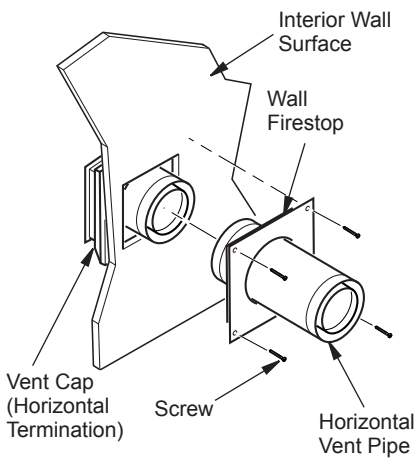
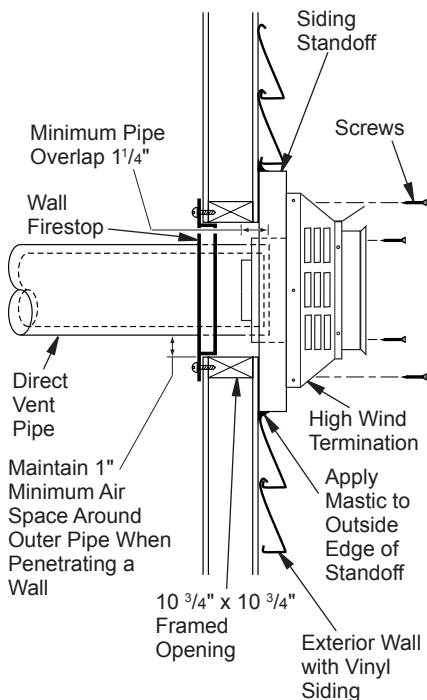

Figure 12 - Connecting Vent Cap with Horizontal Vent Pipe
Figure 13 - Typical Horizontal Termination Cap Mounting with Additional Siding Standoff Installed
7. **Combustible Exterior Wall Only:** Slide the wall firestop over the vent pipe before connecting horizontal run to vent cap (see Figure 12).
8. Carefully move fireplace, with vent assembly attached, toward wall and insert vent pipe into horizontal termination. The pipe overlap should be a minimum of 1 1/4" (see Figure 13, page 11).
9. **Combustible Exterior Wall Only:** Slide wall firestop against interior wall surface and attach with screws provided (see Figure 12). See Figure 13, page 11 for horizontal termination details.